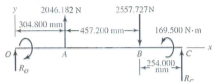

Figure 3
3. A constant diameter shaft, is loaded with forces at *A* and *B* as shown in Figure 3, with ground reaction forces at *O* and *C*. The shaft also transmits a torque of $169.5 \text{ N}\cdot\text{m}$ throughout the length of the shaft. The shaft is to be made of AISI 1035 CD steel. Using a conservative failure theory with a design factor of 2, Design the minimum shaft diameter to avoid yielding. (25)